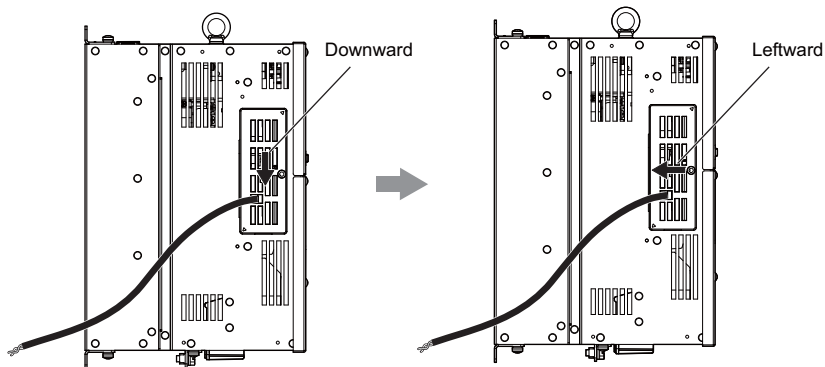

Figure 4.31 Sliding the Connector Cover into Place
6. Slide the connector cover back into place as shown in Figure 4.31.